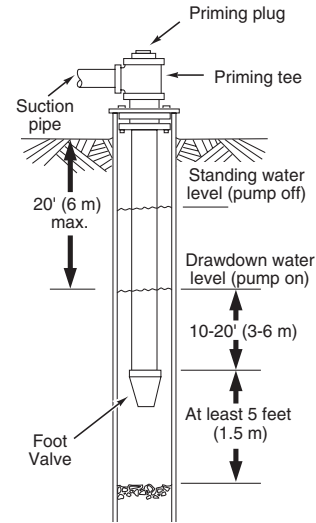
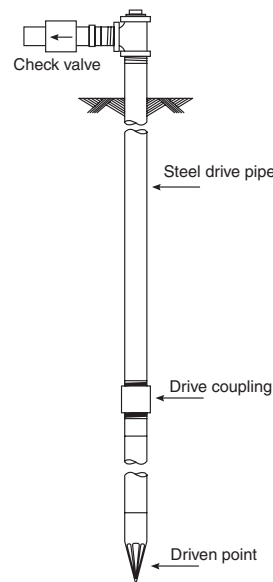

Figure 1: Cased/Dug Well Installation
Figure 2: Driven Point Installation
5. When using a foot valve, a priming tee and plug are recommended (Figure 1).
1. Connect the suction pipe to the drive point (Figure 2). Keep horizontal pipe run as short as possible. Use PTFE pip thread sealant tape on male pipe threads. Multiple well points may be necessary to provide sufficient water to pump.
2. Install a check valve in horizontal piping (Figure 2). Ensure check valve flow arrow points toward the pump.
NOTICE: For long horizontal pipe runs, install a priming tee between check valve and well head (Figure 1). For driven point installations, install a check valve (Figure 2). Be sure check valve flow arrow points **toward** pump.